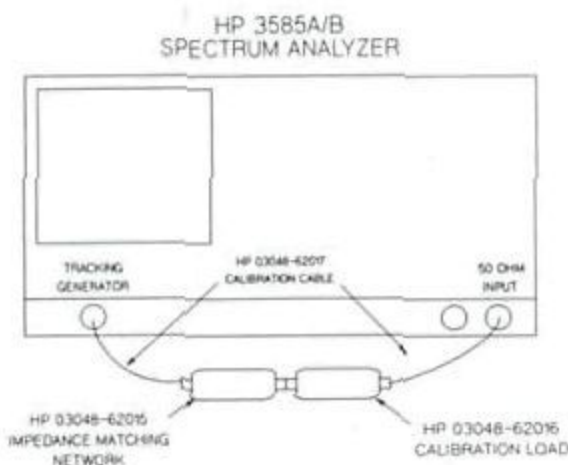

Figure 3-1. Setup For Reference Measurement With HP 3561A
1. Connect the equipment as shown in figure 3-1.